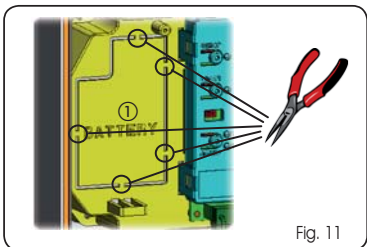

Fig. 11
This support (Fig.11 ref.①) was pre-moulded to permit the battery housing to be opened.